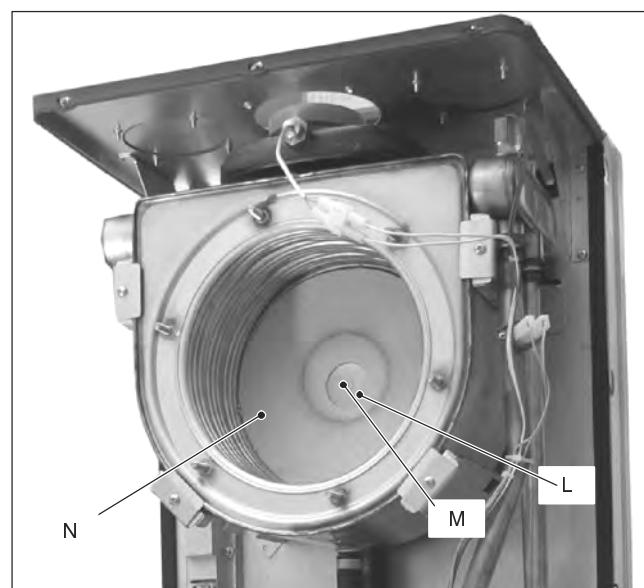

Fig. 18.6
- 4 Unscrew the screw *L*, remove the washer *M* and the rear insulation *N* (Fig. 18.6).